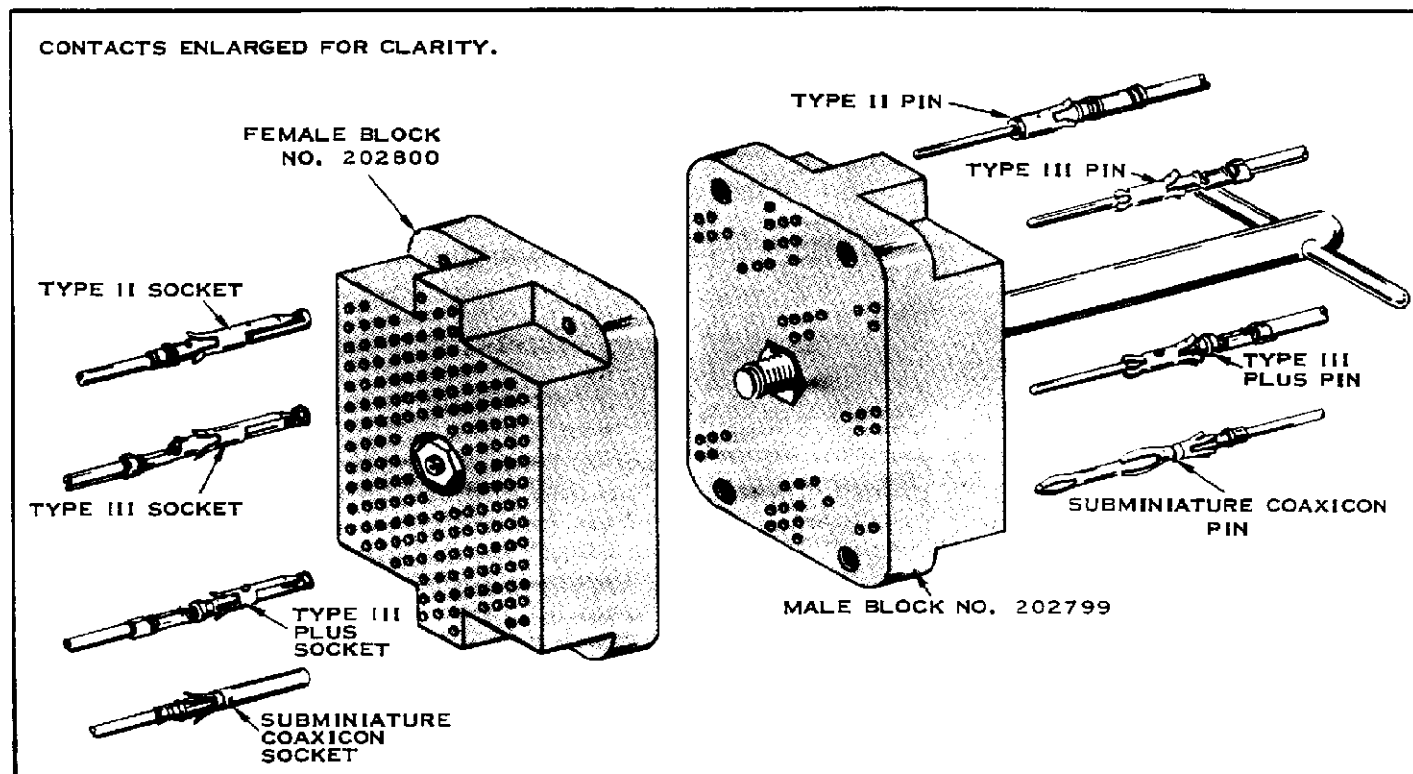

FIGURE 1
1. These instructions cover the A-MP 160 Position Series "M" Connector (see Figure 1) and its Accessories. Assembly instructions for Accessories are packaged with the items. Read these instructions and those packaged with the Accessories before assembling Connectors.